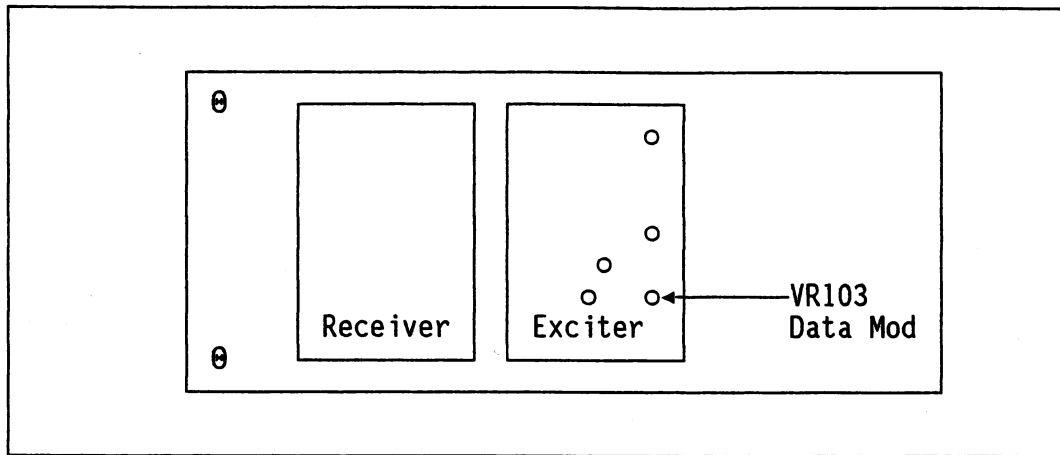

Figure 4-22. Uniden MRS804 Internal Sub-Chassis
- []10. Turn VR103 on the MRS804 exciter about 1/4 turn clockwise to get more adjustment range on the Zetron transmit data deviation. Refer to Figure 4-22 for VR103 location.